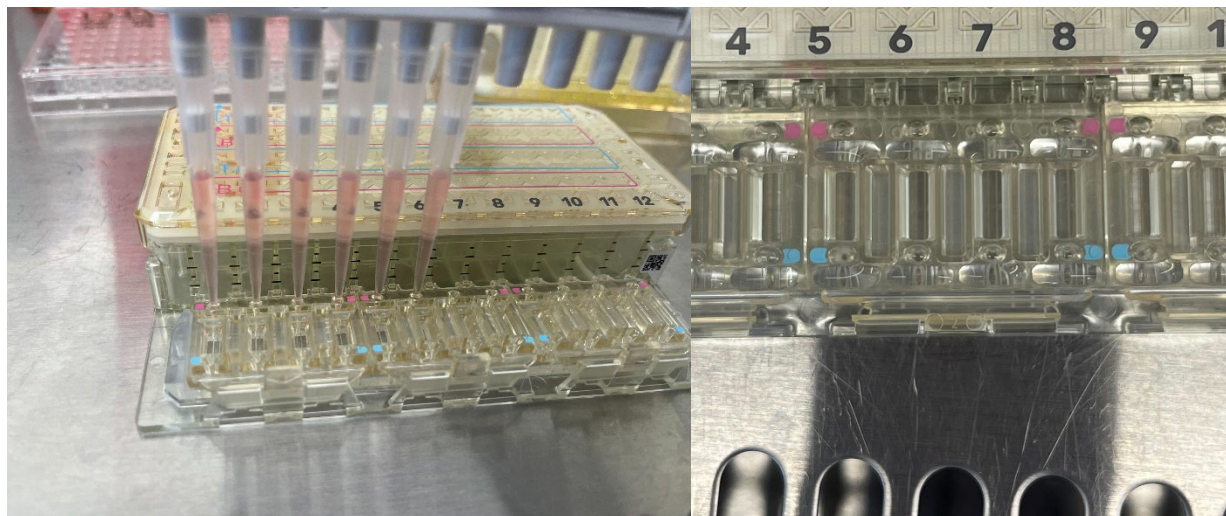

Figure 6. Left image shows proper placement of tips into seeding ports and dispensing of liquid. Right image shows collection of excess outflow into the trough.
3. Steadily dispense the liquid through the channel. See Figure 6 for proper placement of tips into seeding port and dispensing of liquid through the channels.